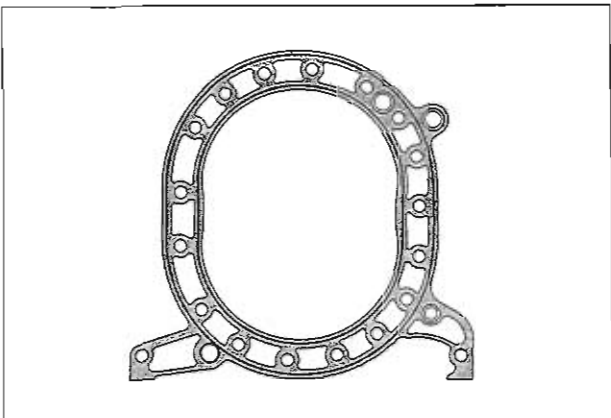

Fig. 1-88 Applying of sealing agent
1. Apply sealing agent onto the rear side of the rear rotor housing, as shown in Fig. 1-88. Be careful not to let the sealing agent penetrate into the water passages or oil passages.